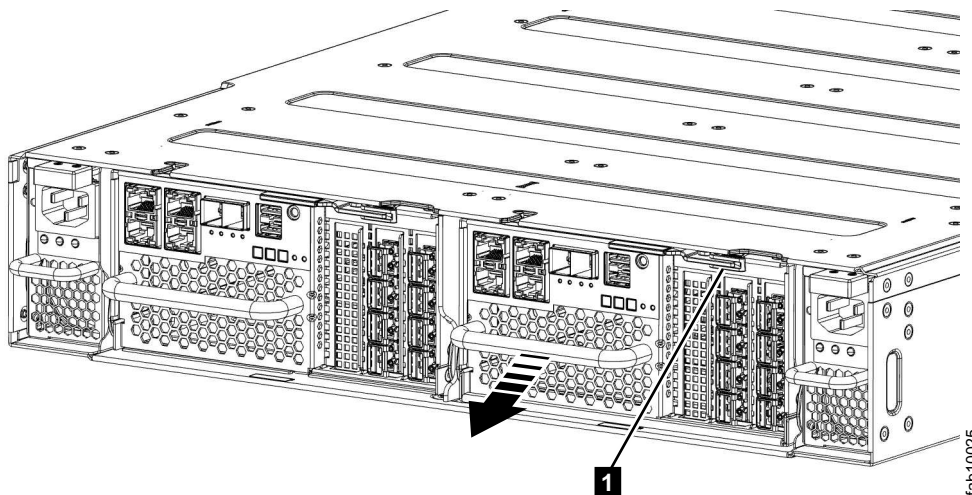

Figure 75. Removing a node canister
6. On the canister, unlatch the release lever and pull it open (see Figure 75 on page 280). The canister moves out of the slot approximately 0.6 cm (0.25 inch). Be careful that you do not inadvertently disturb or remove any cables that are connected to other components of the system.